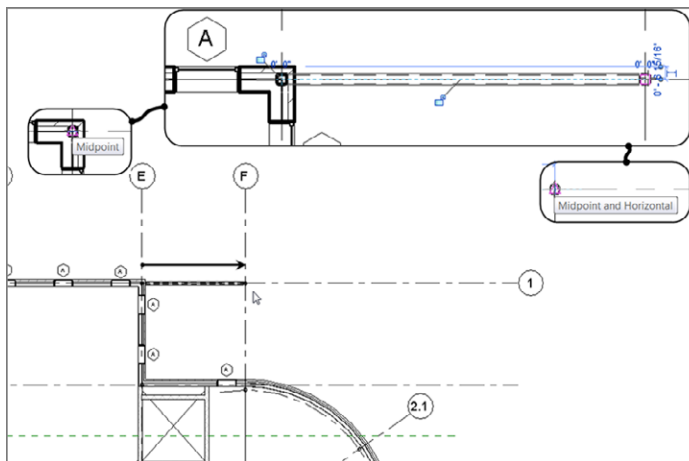

FIGURE 8.35: Adding the beam requires picking two columns.
7. Pick the second point at exterior column F-1, as shown in Figure 8.35.